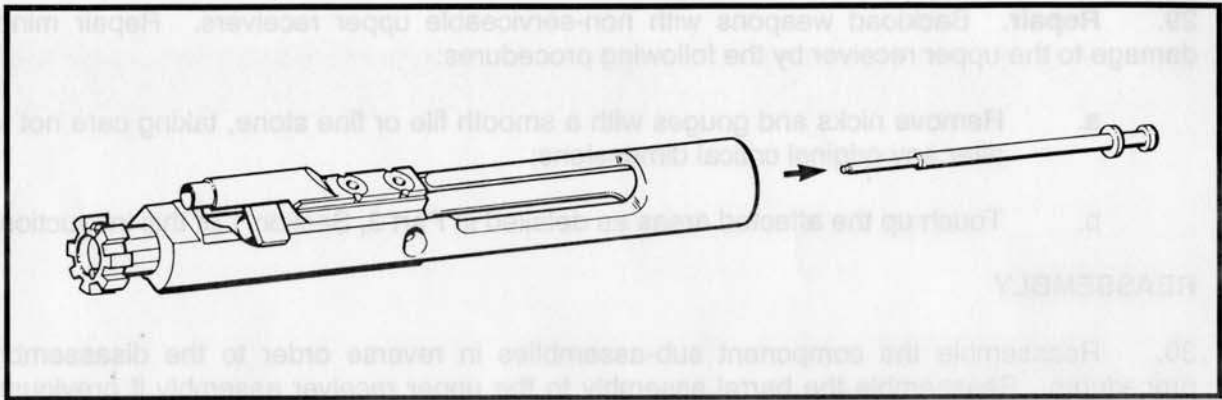

Figure 3-2-30 Removing the Firing Pin
- b. Remove the firing pin from the rear of the bolt carrier. See Figure 3-2-30;